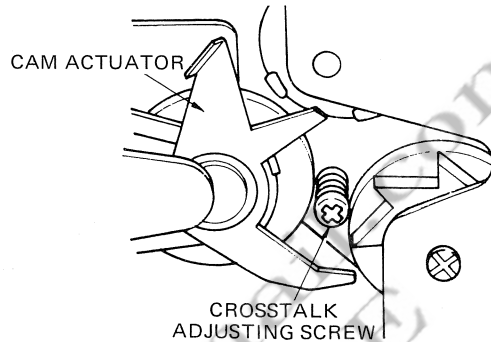

Fig. 8
4. Change program to 2, and adjust by turning crosstalk adjusting screw (Fig. 8) so as to minimize VTVM needle vibration both in Lch and Rch. After adjustment, secure adjusting screw with bond and screw lock.